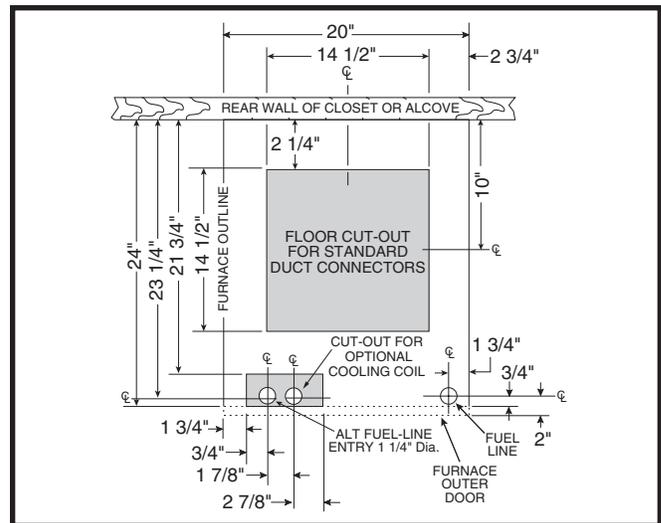
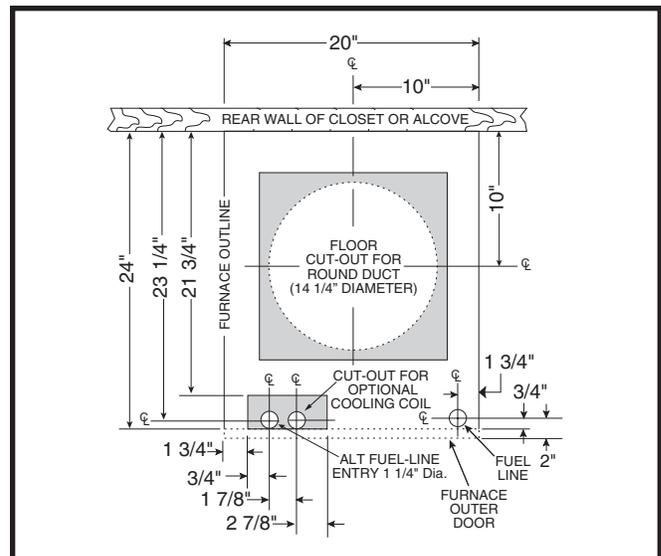

Figure 6. Cut-Out Dimensions for Standard Duct Connectors
Figure 7. Cut-Out Dimensions for Round Duct Connectors
Floor cut-outs and fuel line holes must be carefully located to avoid misalignment of the furnace, and vent piping. To locate standard ducts see Figure 6. For round ducts, see Figure 7.
2. Using the centerline as a starting point, draw the rest of the duct cut-out to the dimensions shown in Figure 6 or Figure 7.
6. Measure and drill gas hole and cut out for cooling coil (if applicable). See Figure 6 or Figure 7.